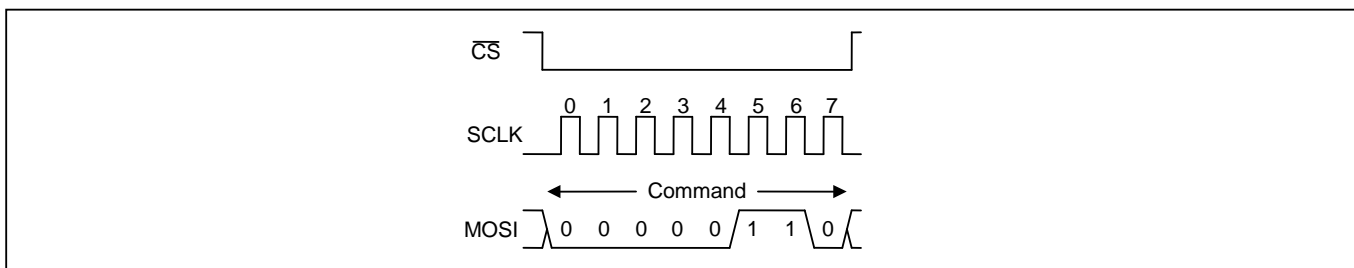
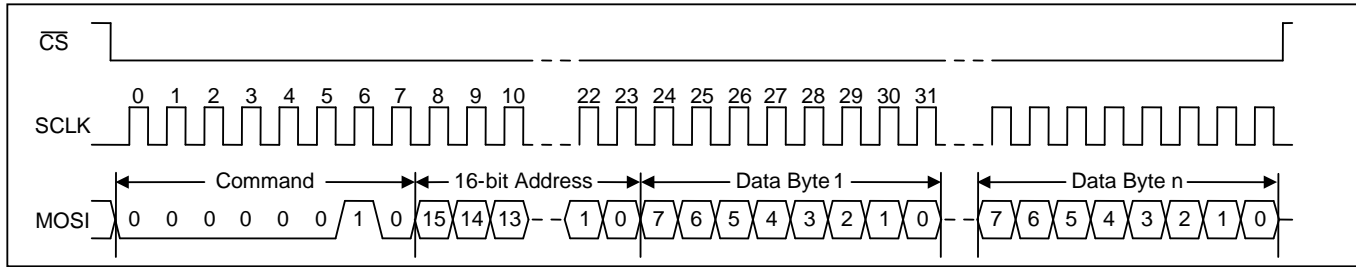

Figure 13 - SPI Write Enable Transaction Functional Timing
Figure 14 - SPI Write Transaction Functional Timing
**Register Write Transactions.** The device registers are accessible when **EESEL**=0. After driving CSN low, the bus master transmits the write command followed by the 16-bit register address followed by the first data byte to be written. The device receives the first data byte on MOSI, writes it to the specified register, increments its internal address register, and prepares to receive the next data byte. If the master continues to transmit, the device continues to write the data received and increment its address counter. The write transaction is completed when the bus master drives CSN high. See Figure 14.
drives CSN high, the device transfers the data in the page buffer to the appropriate page in the EEPROM memory. See Figure 13 and Figure 14.